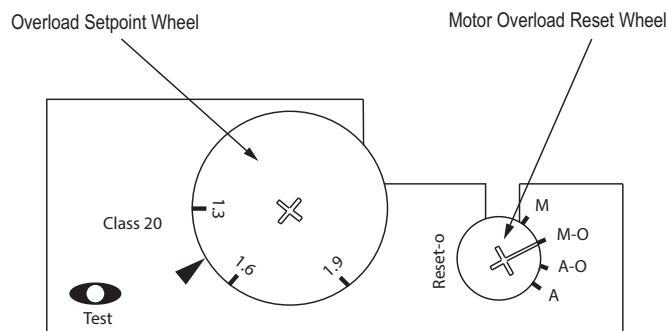

Fig. 23 — Motor Starter Setting
1. On the starter, adjust the Motor Overload to match the **FLA Rating** of the installed motor by turning the Overload Setpoint wheel to the appropriate value. See Fig. 23. Evaporator and condenser motor FLA Ratings are listed in Table 21.